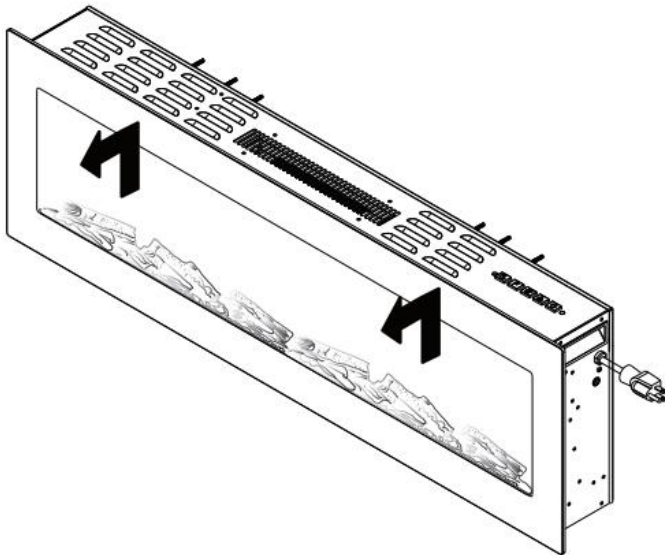

Fig 2
- 2) Carefully remove the front glass Fig 2